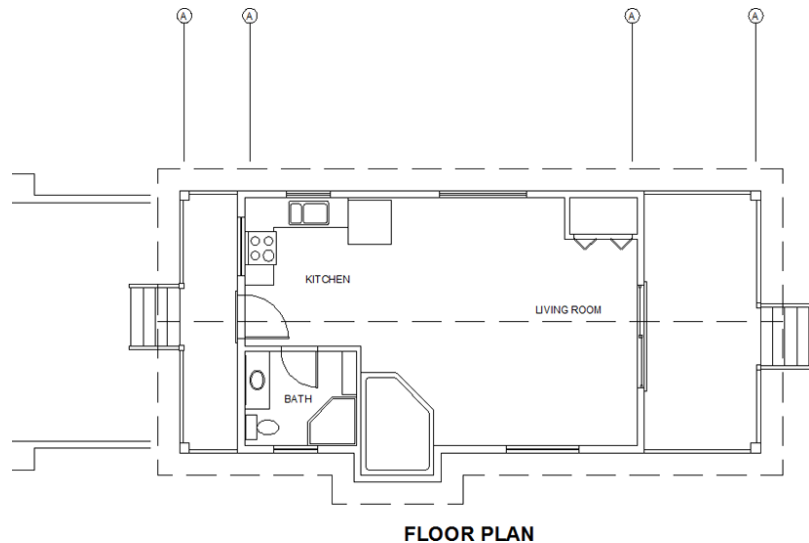

FIGURE 8.37: The grid circle and letter are copied to the top of all three vertical lines.
6. Right-click and choose Enter to terminate the command (see Figure 8.37).